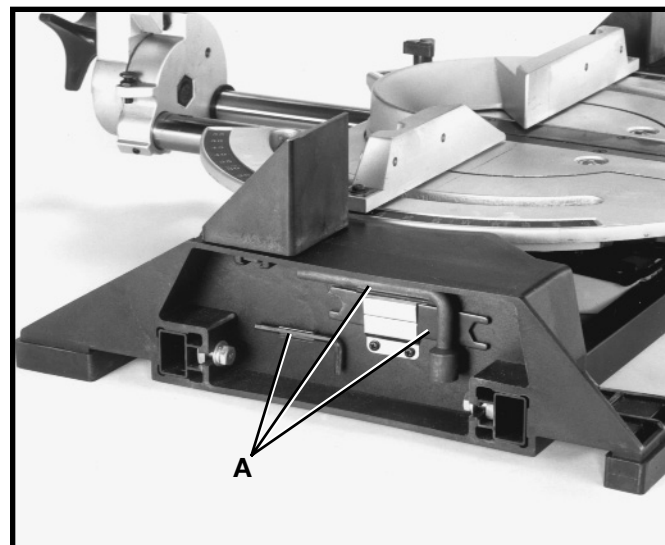

Fig. 51
Clips are supplied in the left side of saw table extension which provides a convenient storage area for the three wrenches (A) Fig. 51. These wrenches are used for various adjustments to the compound slide saw. **NOTE:** Storage area is located on the right hand side on Model 36-250.